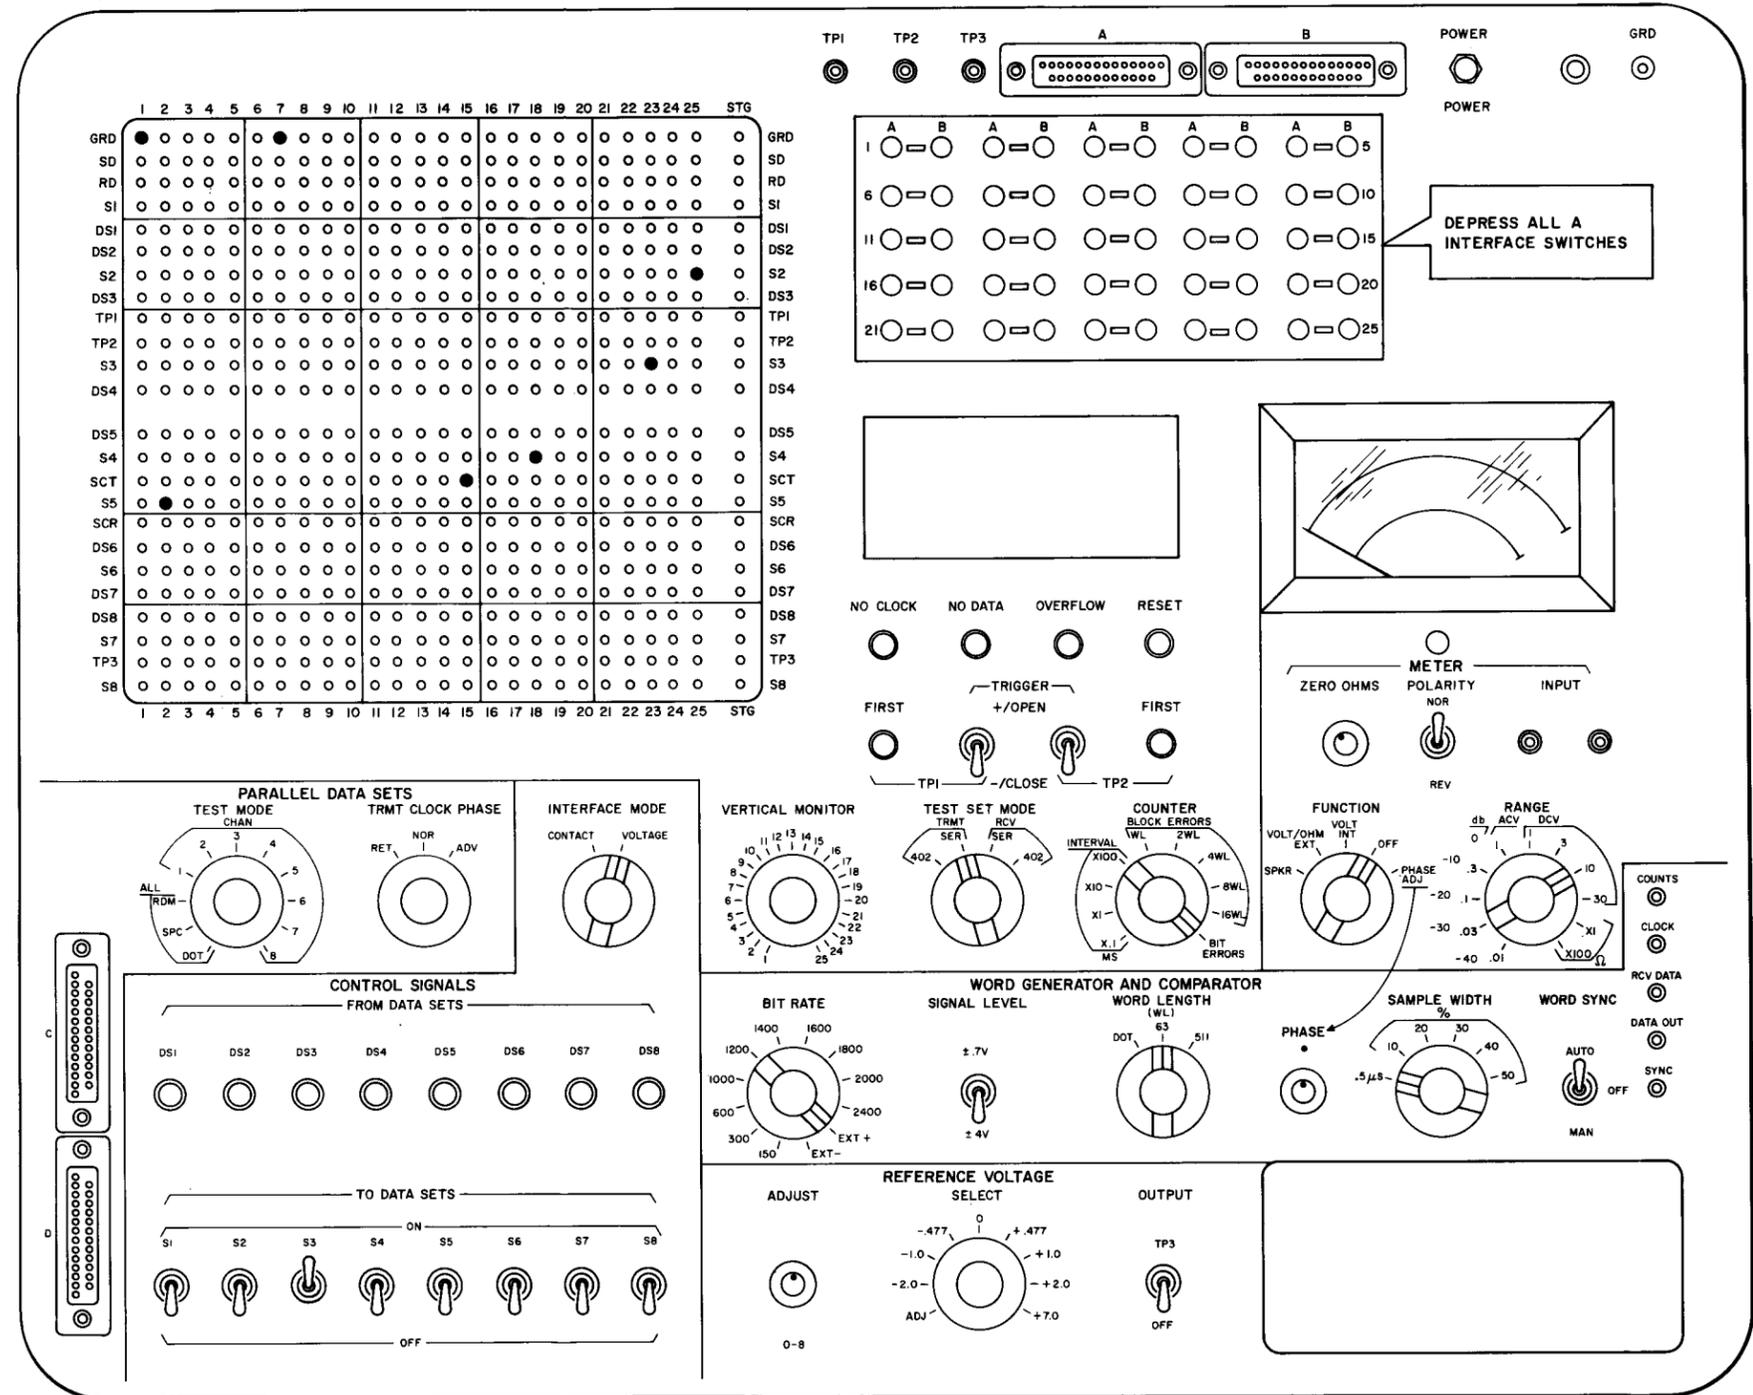

Fig. 40—914B Data Test Set Arrangement for Maintenance Test Procedure
- (1) Set up the 914B as shown in Fig. 40.
- (2) Operate LINE—TEST key on data set to TEST.
- (3) Operate 914B FUNCTION switch to VOLT/OHM EXT and METER POLARITY switch to REV and verify that switch S2 is OFF.
- (4) Place + meter lead probe to TP13 on 059, DSR lead, and - probe to ground.